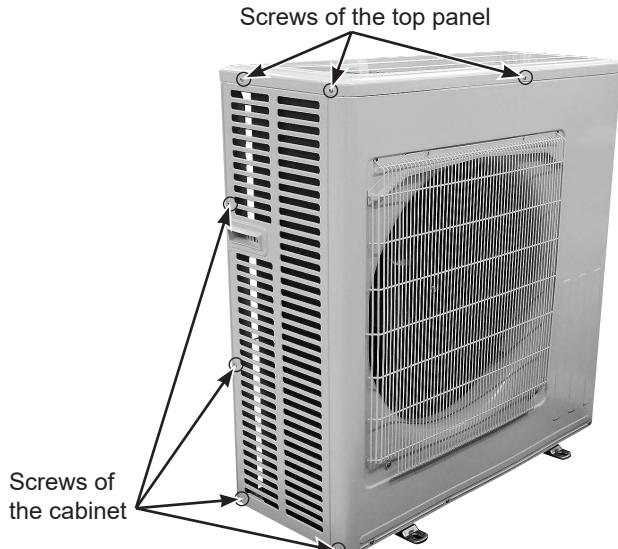

Figure 1
<p>1. Removing the cabinet</p> <ul style="list-style-type: none"> (1) Remove the screws of the service panel. (2) Remove the screws of the top panel. (3) Remove the screw of the valve cover. (4) Remove the service panel. (5) Remove the top panel. (6) Remove the valve cover. (7) Remove the screws fixing the conduit cover. (Photo 5) (8) Remove the conduit cover. (9) Remove the screw fixing the conduit plate. (Photo 6) (10) Remove the conduit plate. (11) Disconnect the power supply cord and indoor/outdoor connecting wire. (12) Remove the screws of the cabinet. (13) Remove the cabinet. (14) Remove the screws of the back panel. (15) Remove the back panel. <p>NOTE: If the red labels have been removed during the operation, put them back in the original position after the operation. Red labels indicate the use of flammable refrigerants. (Figure 1)</p>	<p>Photo 1</p> <p>Photo 2</p> <p>Photo 4</p> <p>Figure 1</p> <p>Photo 3</p>
<p>1. Removing the cabinet</p> <p>(1) Remove the screws of the service panel. (2) Remove the screws of the top panel. (3) Remove the screw of the valve cover. (4) Remove the service panel. (5) Remove the top panel. (6) Remove the valve cover. (7) Remove the screws fixing the conduit cover. (Photo 5) (8) Remove the conduit cover. (9) Remove the screw fixing the conduit plate. (Photo 6) (10) Remove the conduit plate. (11) Disconnect the power supply and indoor/outdoor connecting wire. (12) Remove the screws of the cabinet. (13) Remove the cabinet. (14) Remove the screws of the back panel. (15) Remove the back panel.</p> <p>NOTE: If the red labels have been removed during the operation, put them back in the original position after the operation. Red labels indicate the use of flammable refrigerants. (Figure 1)</p>	 <p>Photo 2</p> <ul style="list-style-type: none"> Screws of the top panel Screws of the service panel Screw of the valve cover Screws of the cabinet  <p>Photo 3</p> <ul style="list-style-type: none"> Screws of the top panel Screws of the cabinet Hooks of the service panel Direction to remove